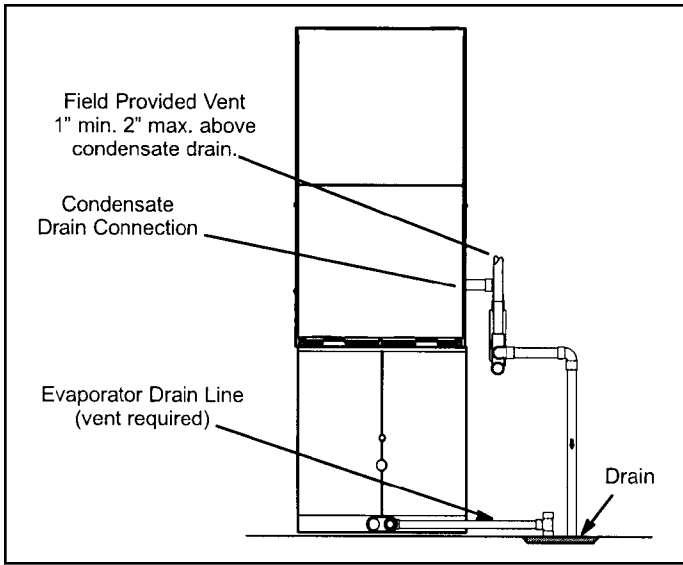

Figure 49. Evaporator Coil Using a Separate Drain
5. Figure 49 shows the furnace and evaporator coil using a separate drain. If necessary, the condensate line from the furnace and evaporator coil can drain together. See Figure 50. The field provided vent must be a minimum 1" to a maximum 2" length above the condensate drain outlet connection.